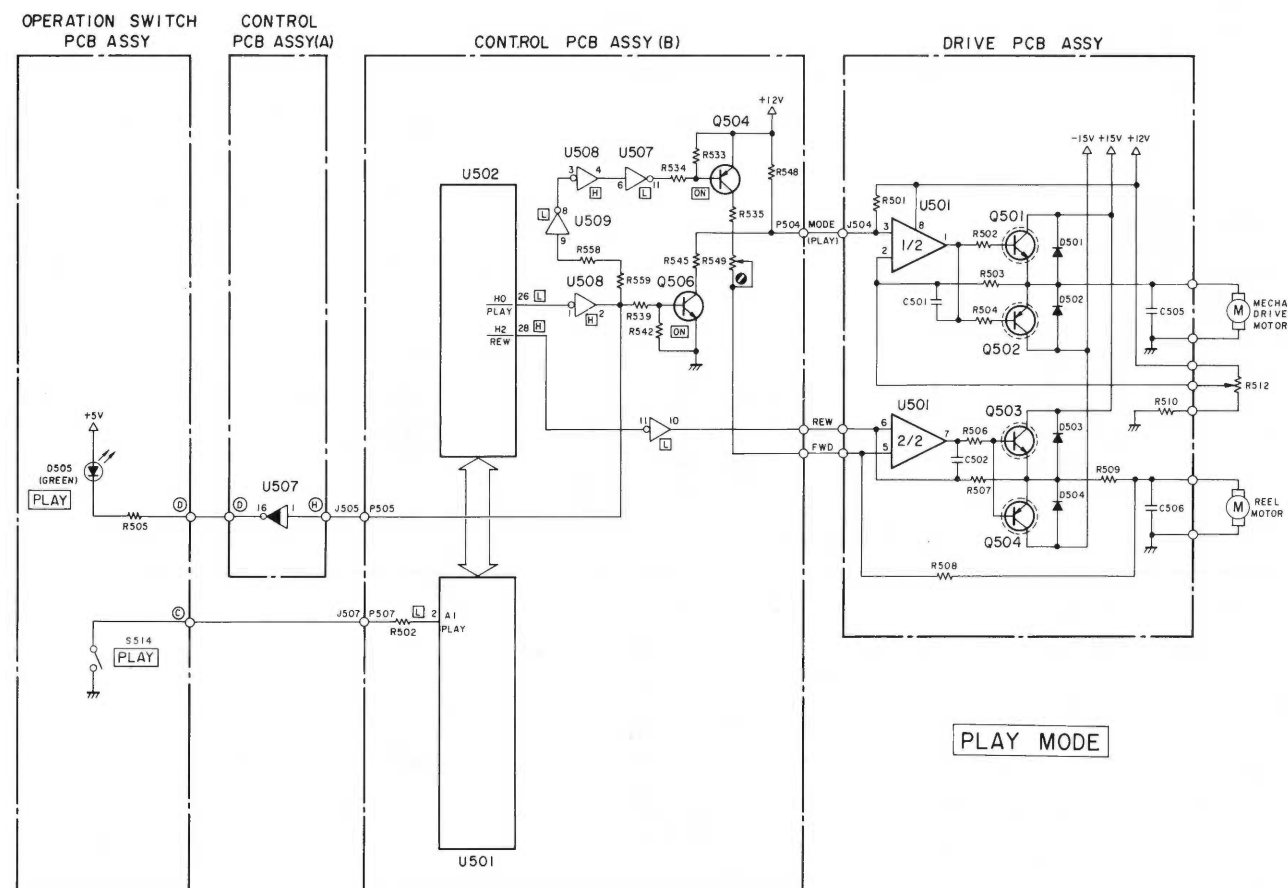

Fig. 2-3
- 1) When the PLAY switch is pressed, PLAY terminal in the Fig. 2-2 turns to L and A1 terminal of U501 also turns to L (refer to Fig. 2-3).
- 4) As pin 2 of U508 turns to H level, pin 16 of U507 in the CONT (A) PCB Assembly turns to L level, lighting PLAY LED D505 as a result.